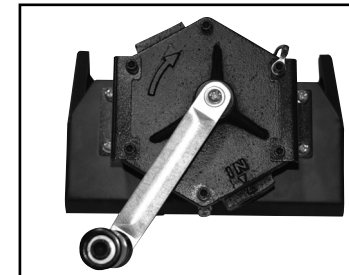

Fig. 4
4. Mount the pump and brackets to the main bracket using the 4 pan head Phillips screws, washers, and lock washers as shown. (See Fig. 4)